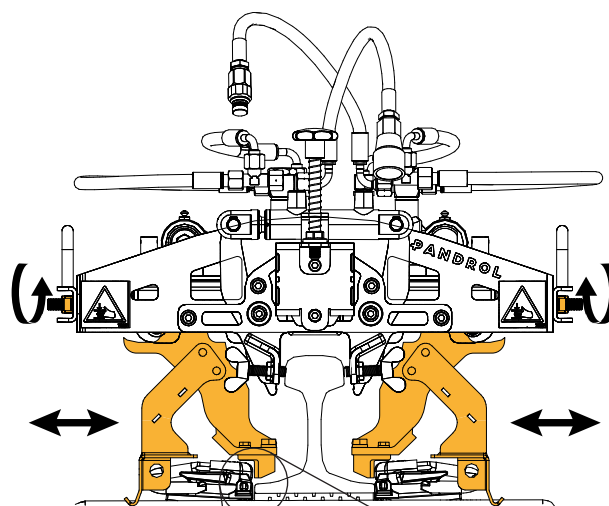

Fig 41.
1. On a sleeper with clips, carefully operate to perform declipping. Ensure that the arm does not touch the isolator Fig 41.